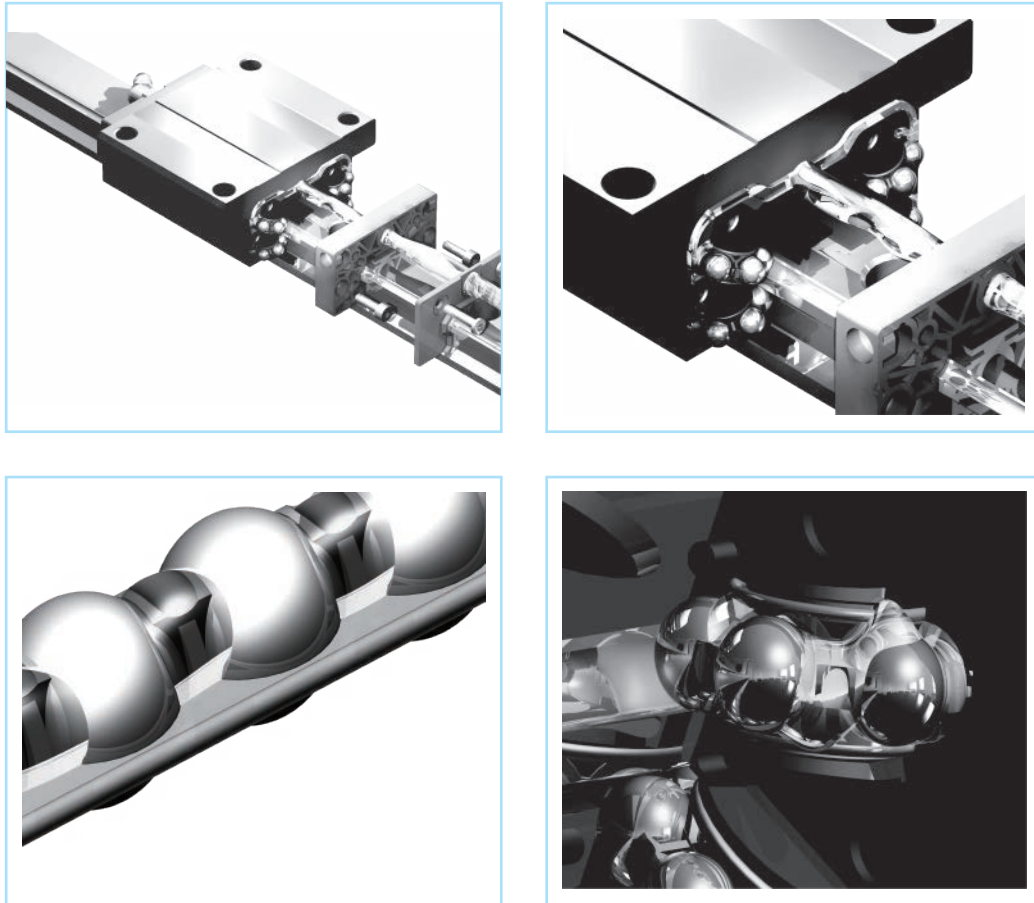

Fig. 4-9
* As shown in Fig. 4-9, the oil film stays in the steel balls and the ball cage. This unique cage design of BGC linear guides provides more space to reserve the lubricant. The ball cage brings the lubricant to every circulation surfaces as it circulates. Even when resting, less lubricant escapes from BGC linear guides than the conventional linear guide